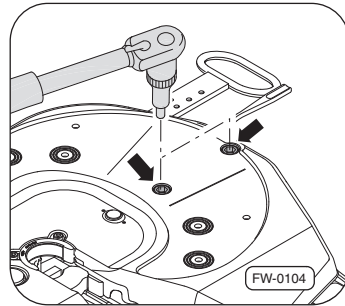

Fig. 27 · Mounting the fifth wheel plate onto the (bearing blocks) brackets.
3. Screw new screws (4x) Fig. 27, –arrow– into the bearing blocks (brackets) and tighten to the prescribed torque Page 36.